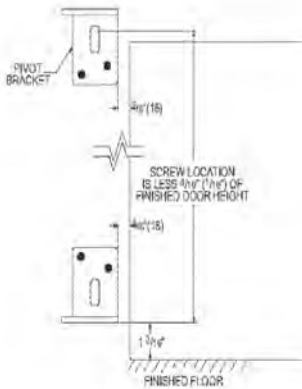

FIGURE 4
Locate top pivot bracket 5/8"(16) from edge of opening with center slot at point according to following formula: finished door height $-3/16"(5) \pm 1/16"(2)$. Check for plumb and adjust if top and bottom brackets are not plumb. Screw top pivot bracket to wall through center slot only, but do not tighten yet (Figure 4).